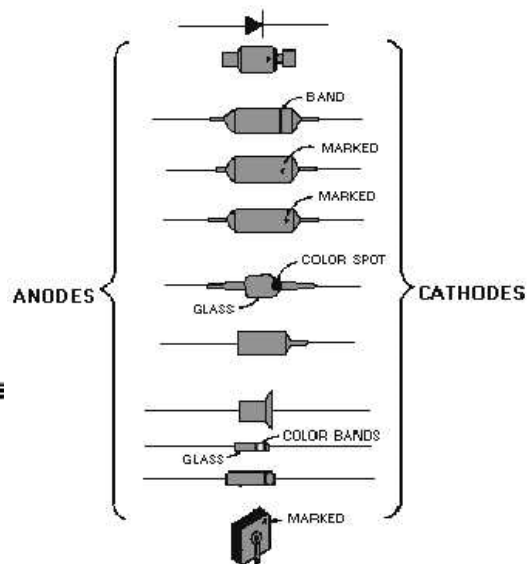

Fig. 5: Identification of Cathode
When working with different types of diodes, it is also necessary to distinguish one end of the diode from the other (anode from cathode). For this reason, manufacturers generally code the cathode end of the diode with a "k," "+," "cath," a color dot or band, or by an unusual shape (raised edge or taper) as shown in Fig. 5. In some cases, standard color code bands are placed on the cathode end of the diode. This serves two purposes: (1) it identifies